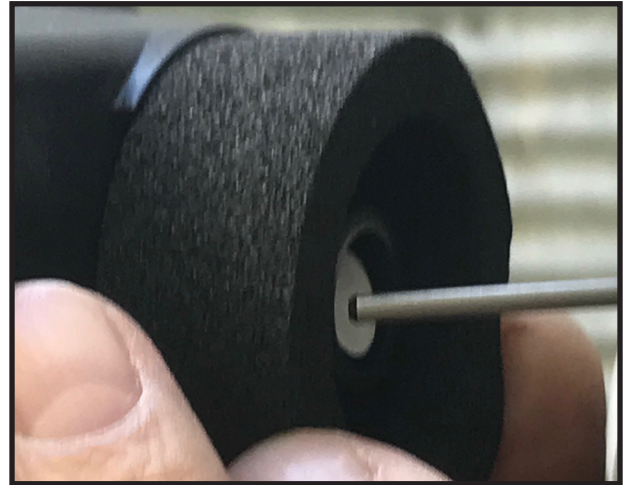

Figure 3b
- b. Carefully insert the exposed tip of the connecting rod into the white bell end on the back of the indicator body. **See Figure 3b**